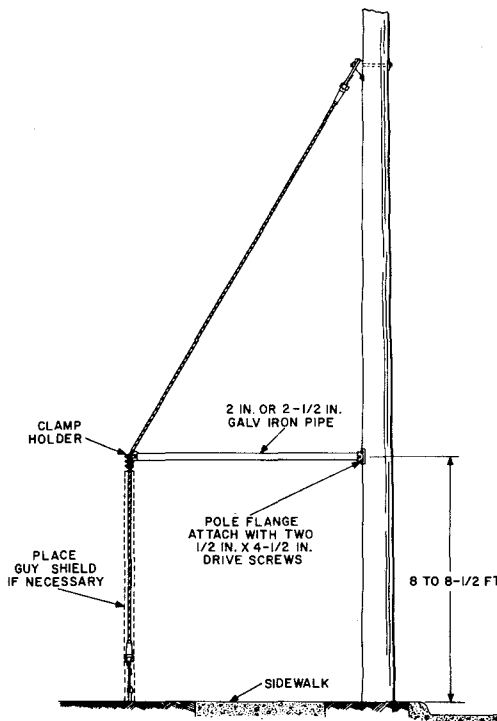

Fig. 2—Typical Installation
3.02 A typical installation of a sidewalk anchor guy is shown in Fig. 2.